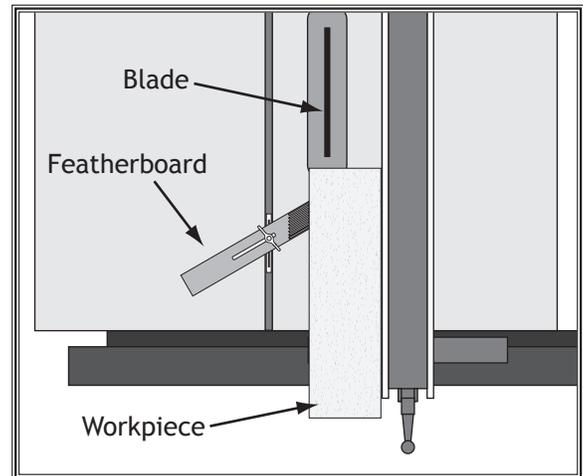

Figure 83. Featherboard installed in miter slot and supporting workpiece for ripping cut.
3. Slide featherboard miter bar into miter slot, making sure fingers slant toward blade, as shown in **Figure 83**.